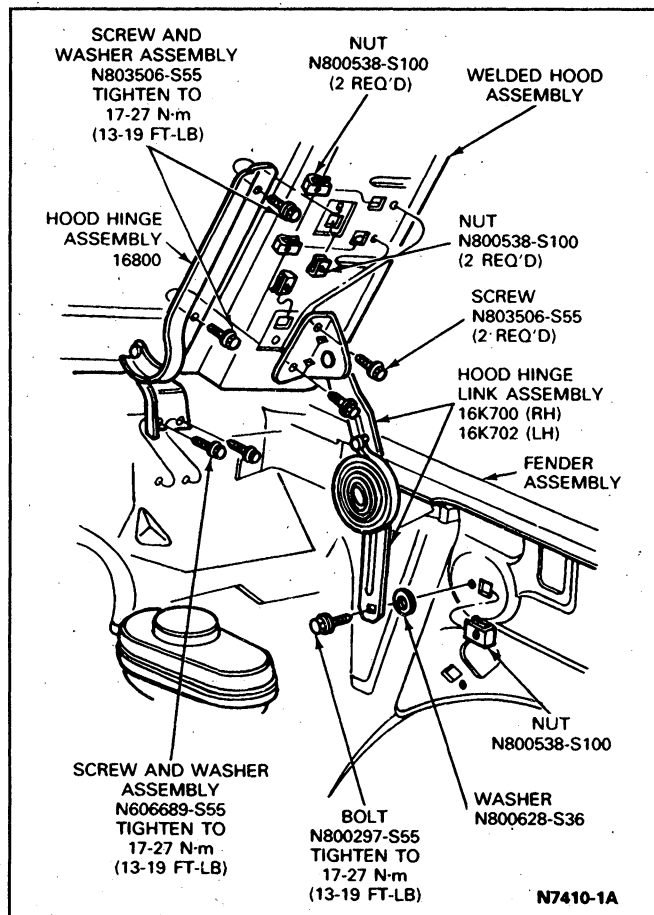

FIG. 1 Hood, Hinge Installation—Bronco and F-150 and F-350
2. Loosen the hinge-to-fender inner attaching screws until they are snug (Fig. 1).
4. Loosen the two hood latch assembly attaching screws (Fig. 1, View A).
6. Adjust the hood for a proper fit by shifting the hood on the hinges. Tighten the hinge bolts (Fig. 1).